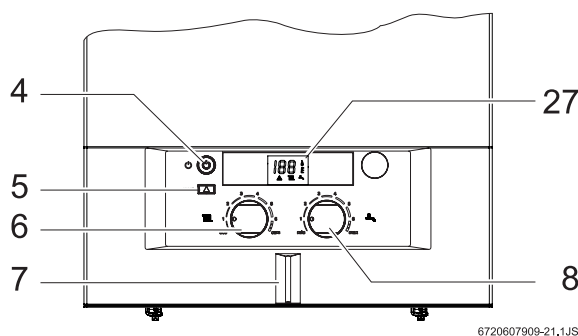

Fig. 31
NOTE: upon installation or after gas line work has been done, air in the gas line may cause a lockout error. Reset the unit (Fig. 31, pos. 5). The heater will reattempt ignition.
- ▶ press the ON/OFF button. LED (fig. 31) goes orange. When the burner is working, the LCD display shows the symbol .